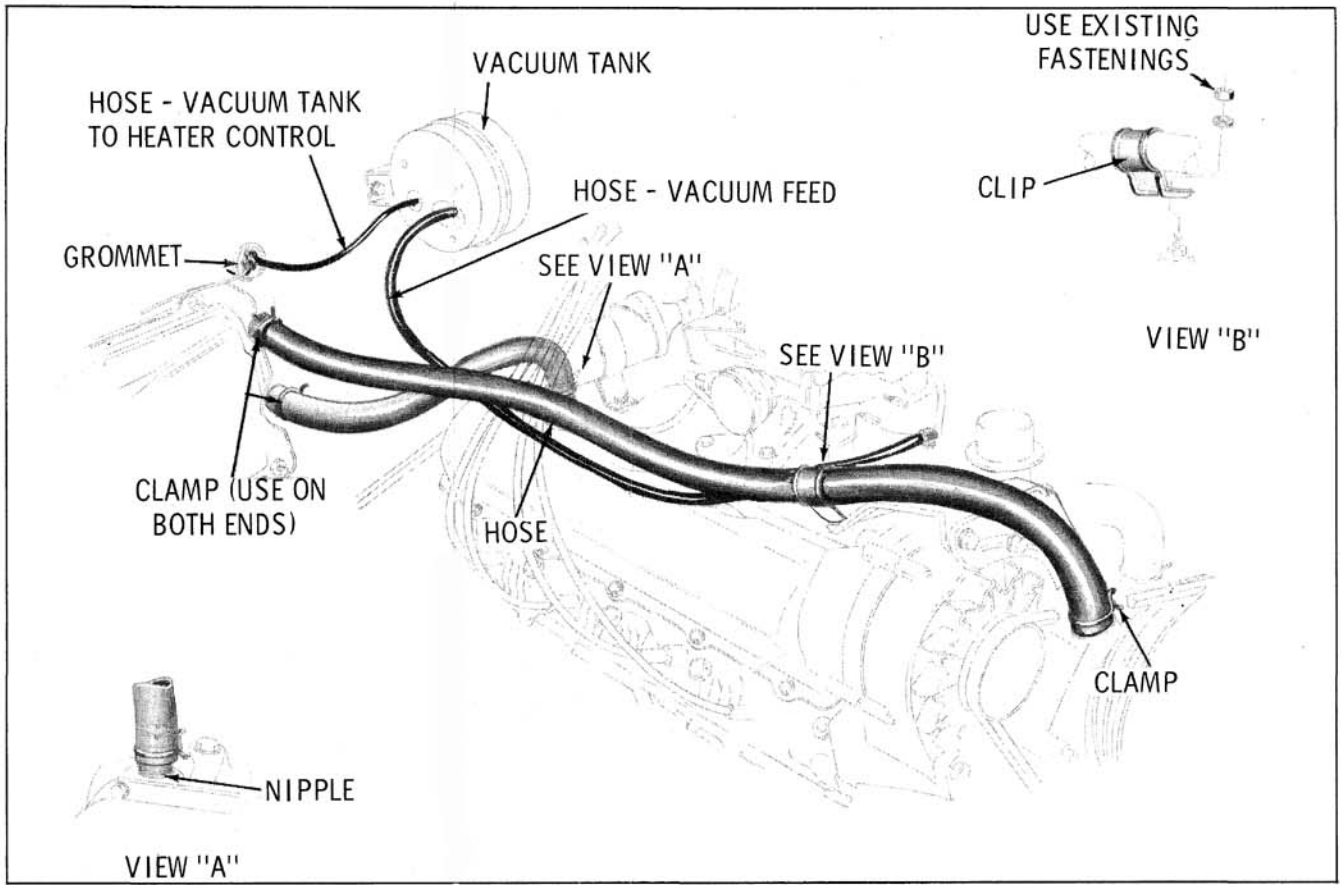

Fig. 14-10 Heater Hose Routing
3. Drain radiator below heater level, disconnect heater hoses and remove gasket. (Fig. 14-10)